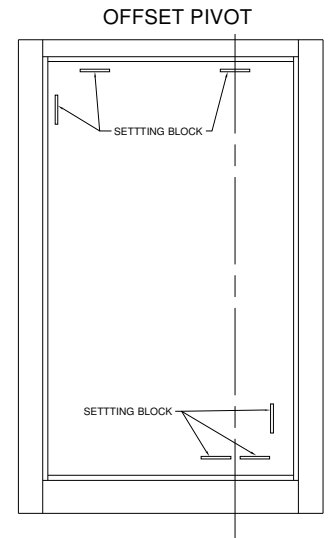

Figure 16:
3. Insert the setting blocks (red bag) according to the image that more closely resembles the product (Figure 16 or 17).
2. Insert the setting blocks (red bag) according to the image that more closely resembles the product (Figure 16 or 17).